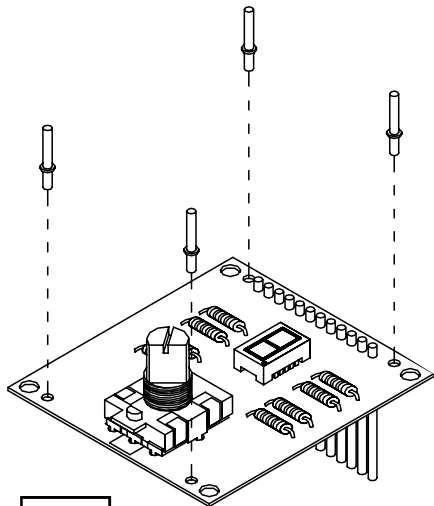

Fig. 2.0
- Mount 4 print tabs onto the display print (see figure 2.0).